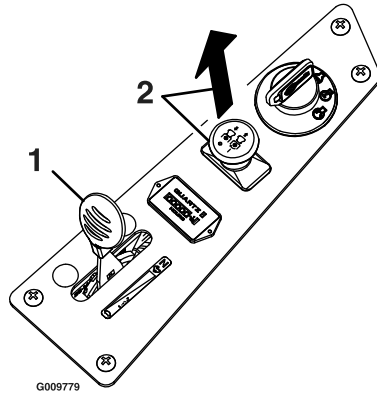

Figure 8
3. Pull out on the blade control switch, to the On position, to engage the blades (Figure 8).